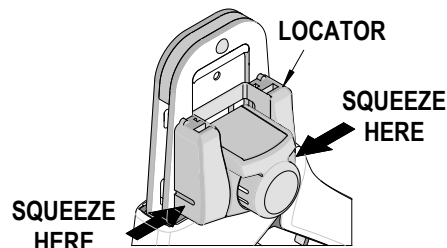

Figure 7A
- Squeeze gently on the lower area shown in Figure 7A with your thumb and index finger. The lower tabs of the locator should disengage from the hand tool.
- Lift and pull away from the hand tool. The top locator hooks should slip out of the top slots easily. See Figure 7A.